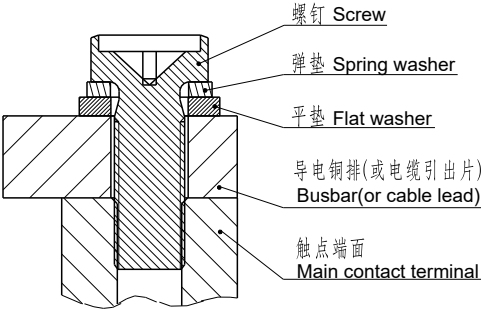

图1(Fig1)
9.当产品使用1个及多个导电铜排连接时，请确保导电铜排与触点端面紧密贴合（多个铜排需确保大电流的导电铜排最贴近触点端面，小电流的导电铜排其次），然后是平垫圈、弹簧垫圈、螺钉。不正确的连接顺序可能造成严重过热，参考下图1:
When the product is connected with one or more conductive copper bars, please ensure that the conductive busbars closely fit the contact terminal surface (The conductive copper bars with high current must be closet to the contact terminal surface if there are multiple copper bars and then conductive busbars with low current), followed by flat washers, spring washers and screws. Incorrec connection sequence perhaps give rise to severe overheating. Refer to Figure 1 as follows: